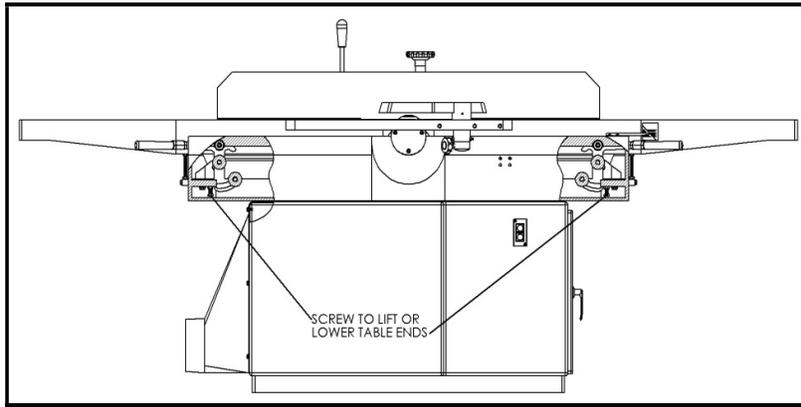
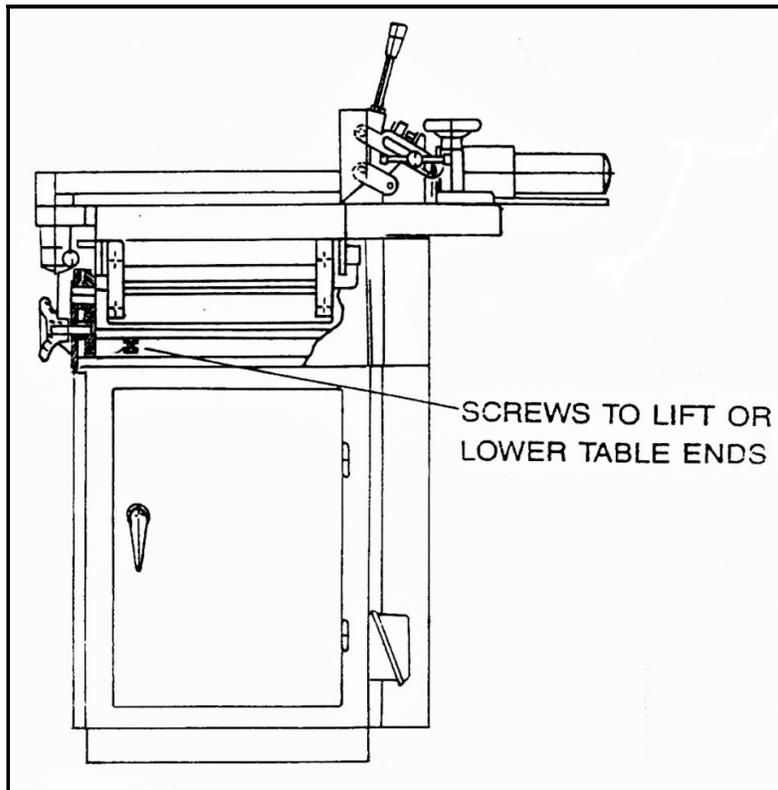

Fig. 24
Fig. 25
3. There is concave in the middle of finished stock.	<ul style="list-style-type: none"> ● Check if the ends of both tables have a little fall. ● To raise them adjust the screws which are four corners under table as shown in Fig. 24, 26
4. Two tables are not in line.	<ul style="list-style-type: none"> ● Adjust screws with nuts located at four corner under the tables as shown in Fig. 24
5. Two ends of finished stock are cut more than the middle.	<ul style="list-style-type: none"> ● Check if the ends of two tables are higher than the middle. ● Lower both table ends by adjusting screws under the tables as shown in Fig. 24 & Fig. 25